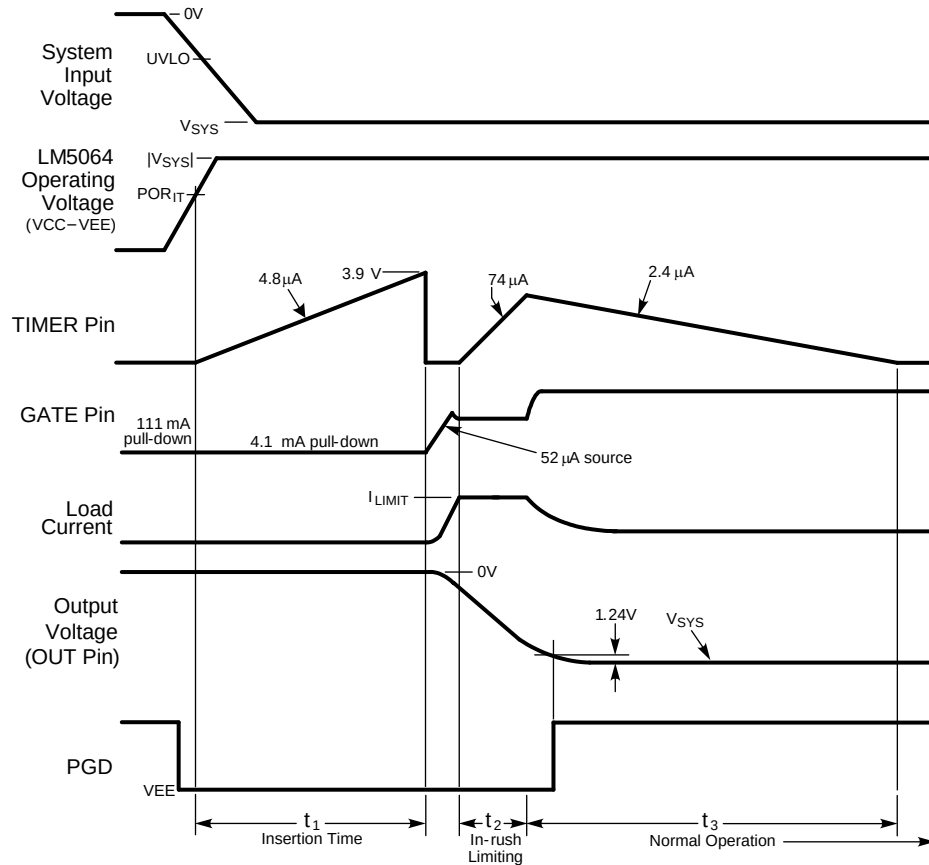

Figure 2. Power Up Sequence
Referring to Figure 2, as the system voltage (V_{SYS}) initially increases, the external N-channel MOSFET (Q_1) is held off by an internal 111 mA pull-down current at the GATE pin. The strong pull-down current at the GATE pin prevents an inadvertent turn on as the MOSFET’s gate-to-drain (Miller) capacitance is charged. Additionally, the `TIMER` pin is initially held at VEE. When the operating voltage of the LM5064 (VCC - VEE) reaches the `PORIT` threshold, the insertion time begins. During the insertion time, the capacitor at the `TIMER` pin (C_T) is charged by a 4.8 μ A current source, and Q_1 is held off by a 4.1 mA pull-down current at the GATE pin regardless of the input voltage. The insertion time delay allows ringing and transients on V_{SYS} to settle before Q_1 is enabled. The insertion time ends when the `TIMER` pin voltage reaches 3.9V. C_T is then quickly discharged by an internal 1.5 mA pull-down current. The GATE pin then switches on Q_1 when the operating voltage exceeds the UVLO threshold. If the operating voltage is above the UVLO threshold at the end of the insertion time (t_1 in Figure 2) the GATE pin sources 52 μ A to charge the gate capacitance of Q_1 . The maximum voltage on GATE is limited by an internal 12.6V zener diode to VEE.
As the voltage at the OUT pin transitions to V_{SYS} , the LM5064 monitors the drain current and power dissipation of MOSFET Q_1 . In-rush current limiting and/or power limiting circuits actively control the current delivered to the load. During the in-rush limiting interval (t_2 in Figure 2), an internal 74 μ A fault timer current source charges C_T . If Q_1 ’s power dissipation and the input current reduce below their respective limiting thresholds before the `TIMER` pin reaches 3.9V, the 74 μ A current source is switched off, and C_T is discharged by the internal 2.4 μ A current sink (t_3 in Figure 2). The in-rush limiting will no longer engage unless a current-limit condition occurs.
A current source provides the charge at the GATE pin to enhance the N-Channel MOSFET's gate (Q_1). During normal operating conditions (t_3 in Figure 2) the gate of Q_1 is held charged by an internal $52\mu A$ current source. The GATE pin peak voltage is roughly 12.6 V , which will force a V_{GS} across Q_1 of 12.6 V under normal operation. When the system voltage is initially applied, the GATE pin is held low by a 111 mA pull-down current. This helps prevent an inadvertent turn on of Q_1 through its drain-gate capacitance as the applied system voltage increases.
During the insertion time (t_1 in Figure 2), the GATE pin is held low by a 4.1 mA pull-down current. This maintains Q_1 in the off-state until the end of t_1 , regardless of the voltage on V_{SYS} or $UVLO/EN$. Following the insertion time, during t_2 in Figure 2, the gate voltage of Q_1 is modulated to keep the current or power dissipation level from exceeding the programmed levels. While in the current or power limiting mode, the TIMER pin capacitor is charging. If the current and power limiting cease before the TIMER pin reaches 3.9 V , the TIMER pin capacitor then discharges, and the circuit begins normal operation. If the in-rush limiting condition persists such that the TIMER pin reached 3.9 V during t_2 , the GATE pin is then pulled low by the 4.1 mA pull-down current. The GATE pin is then held low until either a power up sequence is initiated (RETRY pin to VDD), an automatic retry is attempted (RETRY pin to VEE or floating), or a PMBus ON/OFF command is initiated. See the Fault Timer & Restart section. If the operating voltage falls below the $UVLO$ threshold, or rises above the $OVLO$ threshold, the GATE pin is pulled low by the 4.1 mA pull-down current to switch off Q_1 .
When the current limit or power limit threshold is reached during turn-on, or as a result of a fault condition, the gate-to-source voltage of Q_1 is modulated to regulate the load current and power dissipation in Q_1 . When either limiting function is active, a 74 μ A fault timer current source charges the external capacitor (C_T) at the TIMER pin as shown in Figure 2 (Fault Timeout Period). If the fault condition subsides during the Fault Timeout Period before the TIMER pin reaches 3.9V, the LM5064 returns to the normal operating mode and C_T is discharged by the 1.5 mA current sink. If the TIMER pin reaches 3.9V during the Fault Timeout Period, Q_1 is switched off by a 4.1 mA pull-down current at the GATE pin. The subsequent restart procedure then depends on the selected retry configuration.
A) Insertion Delay -Upon applying the system voltage (V_{SYS}) to the circuit, the external MOSFET (Q₁) is held off during the insertion time (t₁ in Figure 2) to allow ringing and transients at V_{SYS} to settle. Since each backplane's response to a circuit card plug-in is unique, the worst case settling time must be determined for each application. The insertion time starts when V_{SYS} reaches the POR threshold, at which time the internal 4.8 μA current source charges C_T from 0V to 3.9V. The required capacitor value is calculated from: